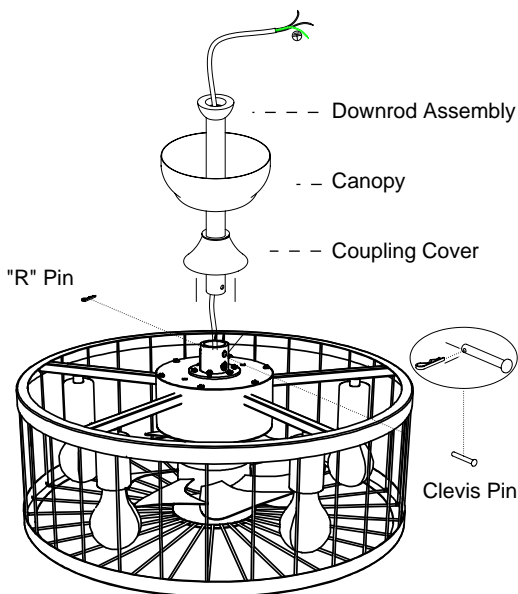

Fig. 2
Step 2. Assemble the canopy and coupling cover as Fig. 2.
Step 4. Loosen the set screws from the downrod hub but do not take off. Align the holes at the bottom of the downrod with the holes in the downrod hub. Carefully insert the clevis pin through the holes in the collar and downrod. Be careful not to jam the clevis pin against the wires inside the downrod. Insert the "R" pin into the end of the clevis pin (Fig. 2).